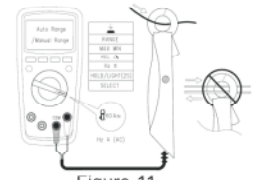

Figure 11
- * 60A AC and DC current clamp measurement (See Figure 11). Connect as shown in the figure with the attached current clamp. (Only applicable for UT139C)